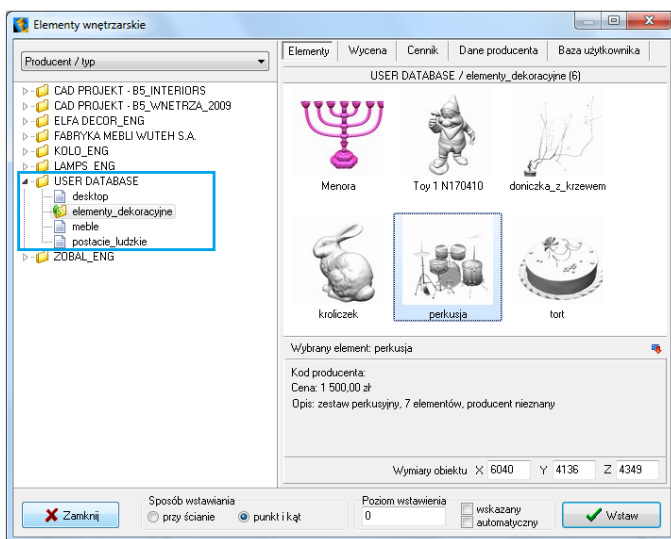

Fig. 162 – example models saved in the User Database
- to insert a model to the project, close the **Converter**, go to **Interior design elements** dialog (**Elements** tab), click on the position User Database on the list of databases in the left part of the dialog, select a type or set an finally – indicate the model and click **Insert** (Fig. 162).